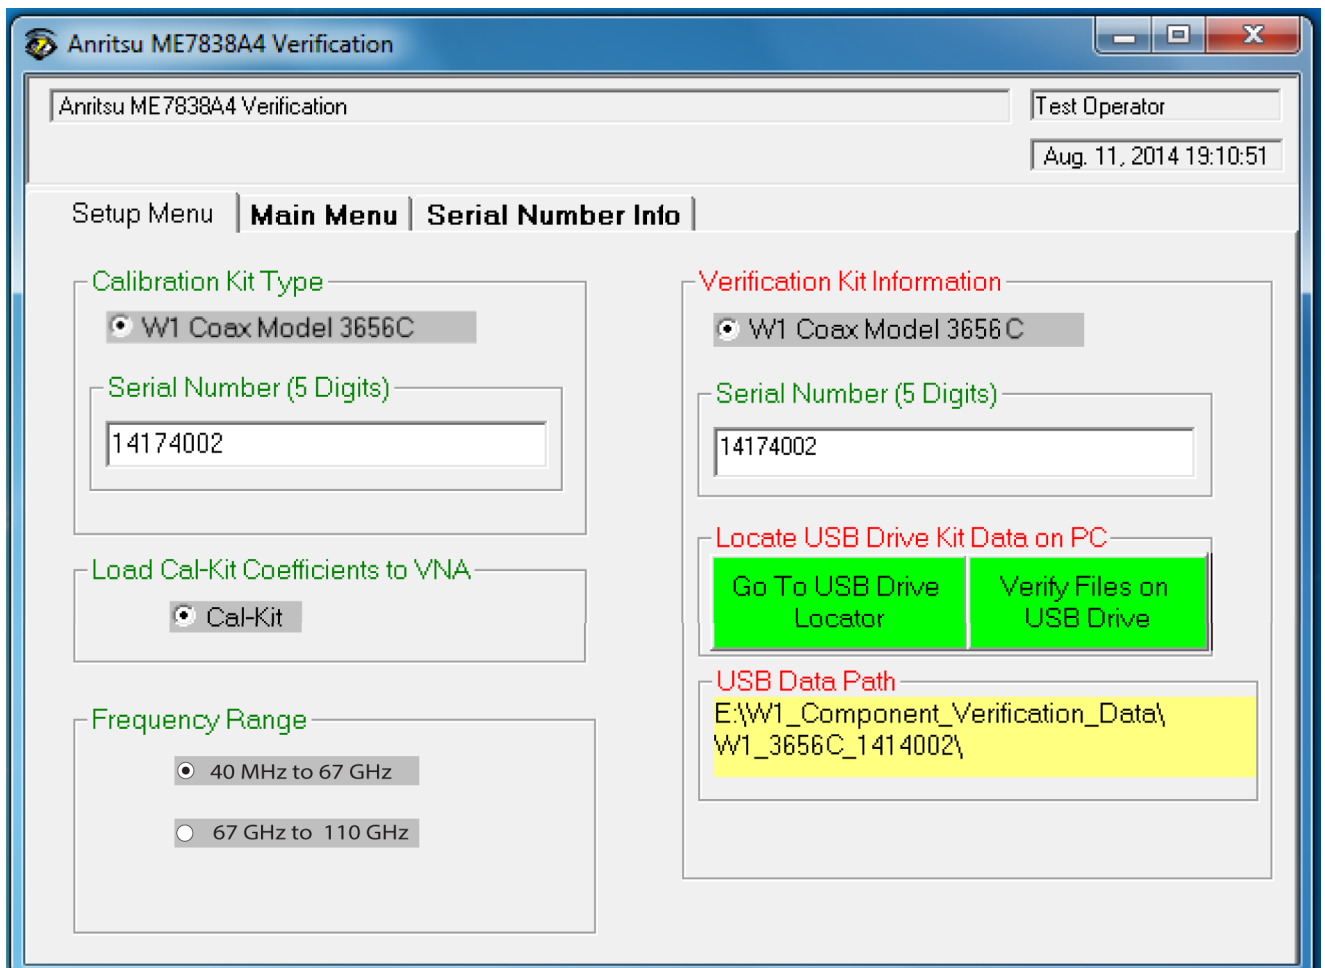

Figure 3-27. ME7838A4 Application Interface – Setup Menu Tab
9. In Figure 3-27 find the Locate USB Drive Kit Data on PC area, click the Go To USB Drive Locator button.